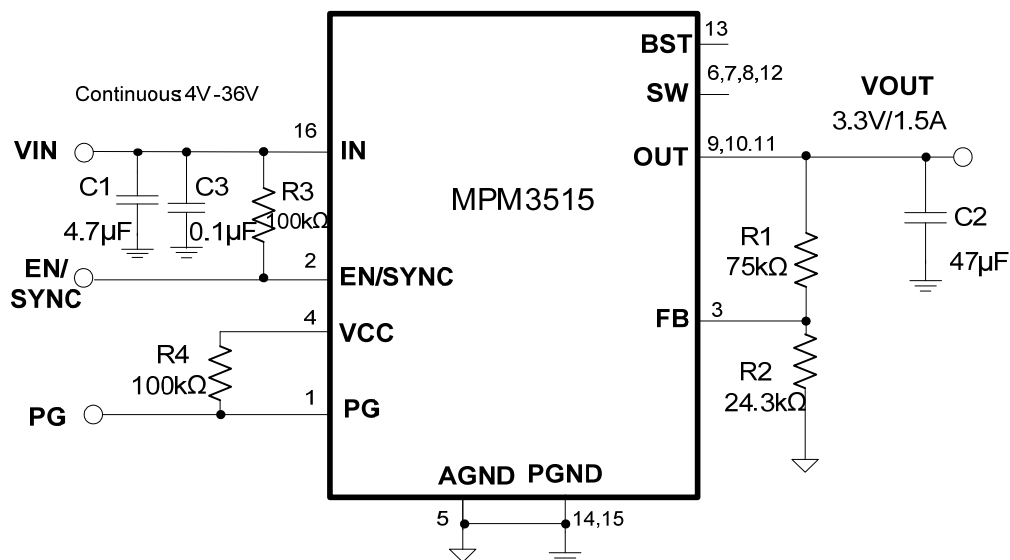

Figure 8: $V_{OUT} = 3.3V$, $I_{OUT} = 1.5A$
- 7) The recommended layout is based on Figure 8.